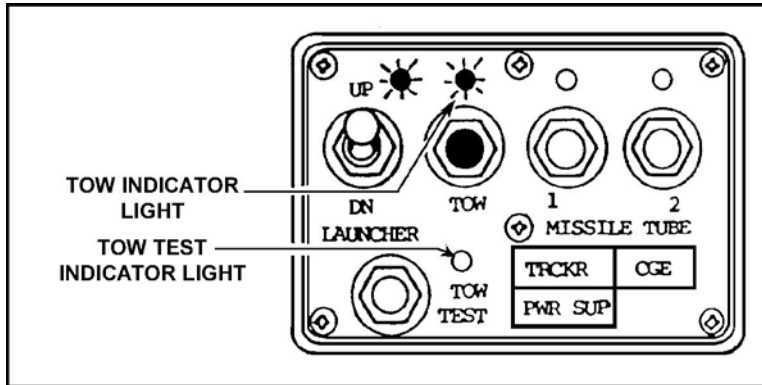

Figure 4. TOW indicator light and TOW test indicator light.
7. Check that the TOW indicator light stays on when the TOW test indicator light goes out (Figure 4).